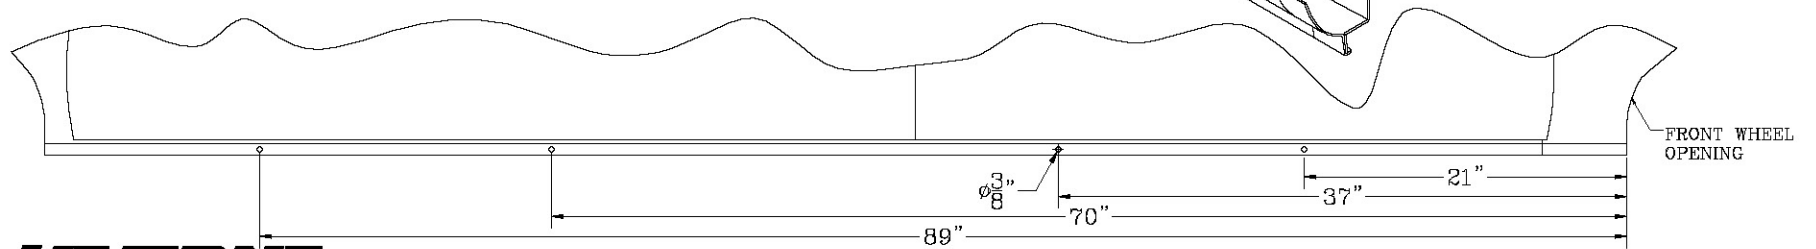

fig.3
4. DRILL (4) 3/8" DIAMETER HOLE THROUGH THE MIDDLE OF THE PINCH WELD FOR THE BOTTOM MOUNTING HOLE. SEE **FIG. 3** TO MARK THESE LOCATIONS WHICH ARE MEASURED FROM THE FRONT WHEEL WELL OPENING.
5. HOLD THESE BRACKETS (ITEM #1) UP TO THE VEHICLE AS SHOWN SECURING THEM WITH A 5/16-18X1.0 BOLT, FLANGE NUT, AND (2) WASHERS (ITEMS #2,3,4). SNUG THESE FASTENERS DOWN.
6. WITH THE (4) BRACKETS IN PLACE USE THE UPPER (2) HOLES IN THE BRACKET AS A GUIDE AND DRILL (2) 5/32" HOLES THROUGH THE INNER ROCKER PANEL FOR EACH BRACKET. INSTALL THE 1/4" X 3/4" SELF TAPPING SCREWS (ITEM #5) **USE CARE NOT TO OVER TIGHTEN.**